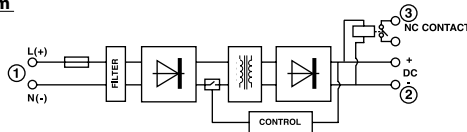

Figure-2
2.1 Input (1)
- The part which is numbered as 1 in Figure-2 is the Line and Neutral supply inputs of PS-362.
2.2 Output (2)
- The part which is numbered as 2 in Figure-2 is the DC voltage output of PS-362.
2.3 Contact Output (3)